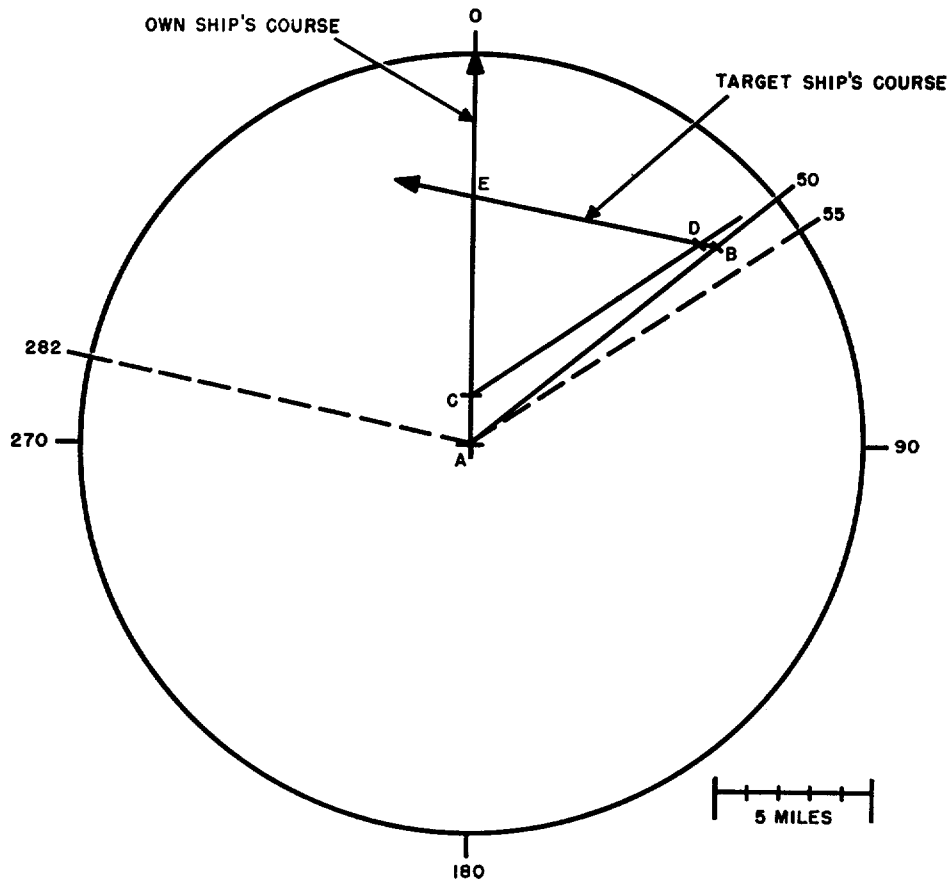
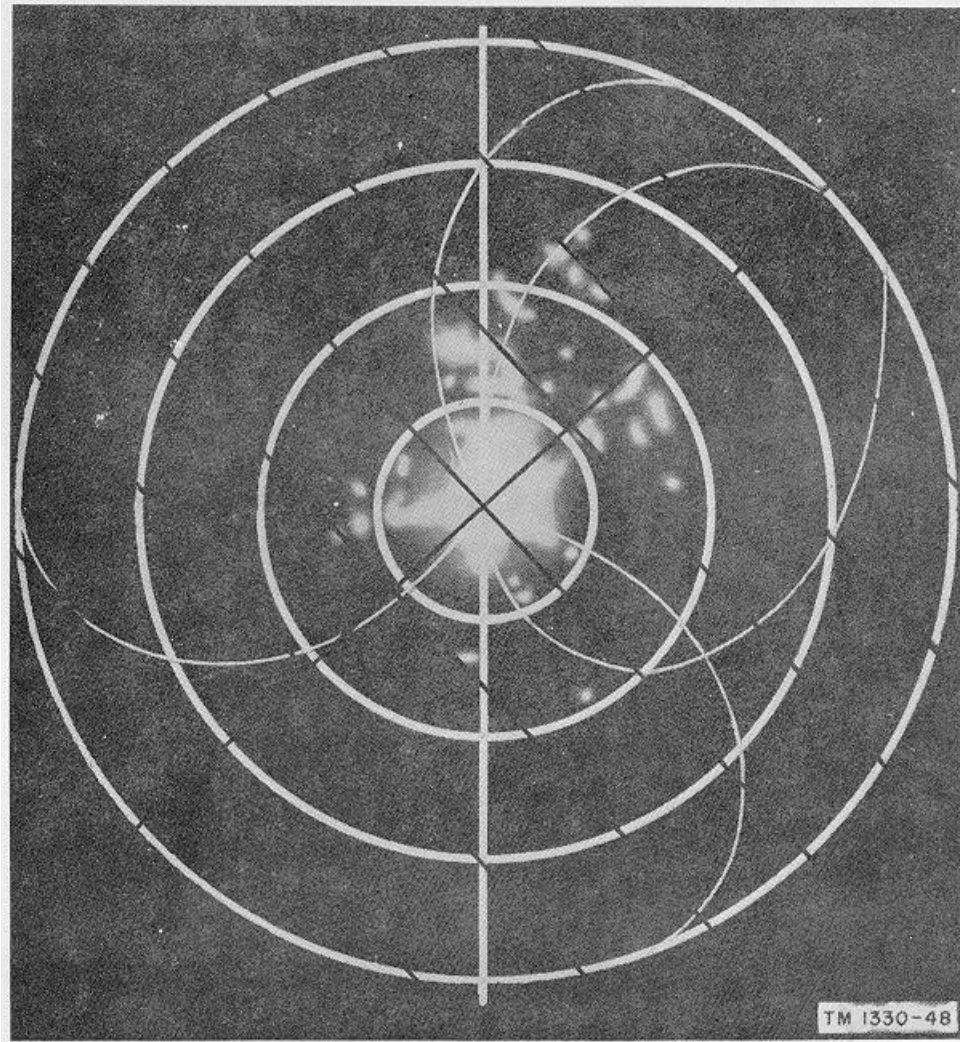

Figure 73. Typical radar plot without plotter.
Figure 74. Typical radar interference on 20-mile range.
- b. *Without Plotter.* Assume your vessel is moving on a true north course at a speed of 15 knots, and a target is picked up at a true bearing of 50° and a range of 10 miles. Refer to figure 73 for a radar plot of this target.
- (1) Draw a line from the center of the plotting sheet (point A) to 0° indicating your true north course.
- (2) Draw a line at a true bearing of 50° (line AB) from point A (bearing line of target).
- (3) With the target range at 10 miles, locate point B by measuring 10 miles along line AB . This will give the location of the target at the moment the range and bearing was taken.
- (4) Six minutes later find the bearing and range of the target. Assume that the target is now at a true bearing of 55° and at distance of 8.8 miles.
- (5) Your vessel is moving at a speed of 15 knots or 1 mile every 4 minutes. Therefore your vessel has moved ahead 1.5 miles in 6 minutes. Plot your ship's new position at 1.5 miles along your own ship's course (point C).
- (6) With the target true bearing now at 55° draw a line with this true bearing (line *CD*) through your ship's new position (point C).
- (7) With the target range now 8.8 miles, locate point *D* by measuring 8.8 miles along line *CD*. This will give the new location of the target.
- (8) Draw a line joining the two positions of the target and extend it until it crosses your own ship's course (line *BE*).
- (9) Draw a line parallel to line *BE* through point *A* and read the target's course (282°) on the compass rose.
- (10) Measure the distance between points *B* and *D*. During the 6 minutes between plots, the target moved .5 mile. Therefore, the target speed is 5 knots.
- (11) Point *E*, where the ships' courses cross, is 6.5 miles from point *C*, your vessel's position at the last plot. If both vessels maintain their courses and speeds, your vessel will arrive at point *E* in 32 minutes after the initial plot, while it will take the other vessel 1 hour and 36 minutes to reach point *E*. Therefore, there is no immediate danger of collision.
- (12) After determining the target's course, speed, and crossing point and time, continue to make plottings of the target's course and speed. In the example given above, if the target's speed is increased to 17 knots immediately after the second plot, there is a risk of collision. Unless a continuing plot is made, any change in the situation will not be detected.
- a. Interference caused by another shipborne radar shows on the PPI as a series of spiral lines starting or ending at the center of the scope (fig. 74). The effect of this type of interference depends on the range, nearness, and type of shipborne radar. If practical, switching to a lower range will tend to clear the PPI scope and targets can be observed.